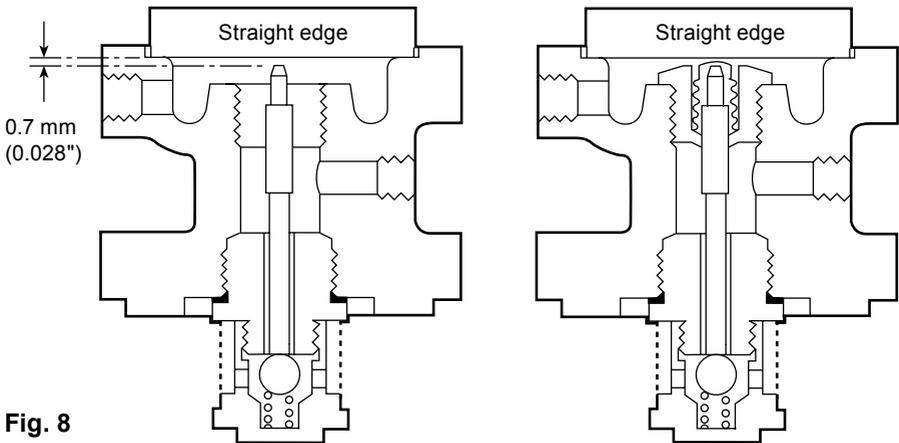

Fig. 8
2. Release the lock-nut (2) and turn the adjustment screw (1) anticlockwise until the spring is slack.
3. Slide out the 'C' washer (3) from underneath the lock-nut and remove the cover (12).
4. Remove the spring (6) and top spring plate (5).
5. Undo the 4 x M10 nuts (8) and remove the spring housing (4), bottom spring plate (7) and the diaphragms (9).
7. Undo the nuts (21) and remove the pilot valve housing (10) making sure that the main valve spring (16) is still positioned correctly on top of the main valve head (17).
8. Unscrew the pilot valve assembly (13) which includes the integral strainer screen (14) by using a 27 mm A/F socket and also remove the plunger (11).
9. Unscrew the bellows seal assembly (31) using a 24 mm A/F socket. If necessary this bellows seal assembly can be replaced.
10. With the bellows seal still removed screw in the new pilot valve assembly (13) and tighten down to a torque of 115 N m.
11. Insert the plunger (11) in from the top and check that there is a gap of 0.7 mm between the top of the plunger and a straight edge placed across the diaphragm location recess (See Figure 8).
13. Check with straight edge again, that with the top of the bellows pressed lightly onto the top of the plunger, there is a slight clearance - a mere line of light between the straight edge and the top of the bellows (see Figure 8).
14. Before reassembling the valve make sure that the gasket faces on both the pilot valve block and the body are clean and that the main valve spring (16) is positioned correctly on top of the main valve head.